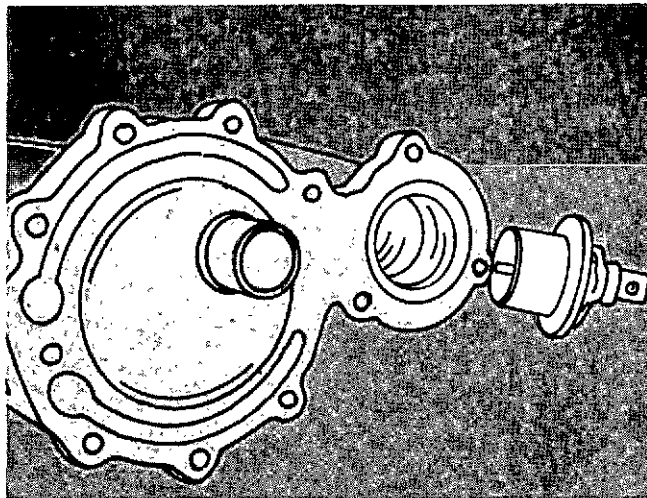

Fig. 7-27. Remove The Thermostat And O-Ring.
2. Remove the thermostat from the thermostat housing. Discard the O-ring, Fig. 7-27.